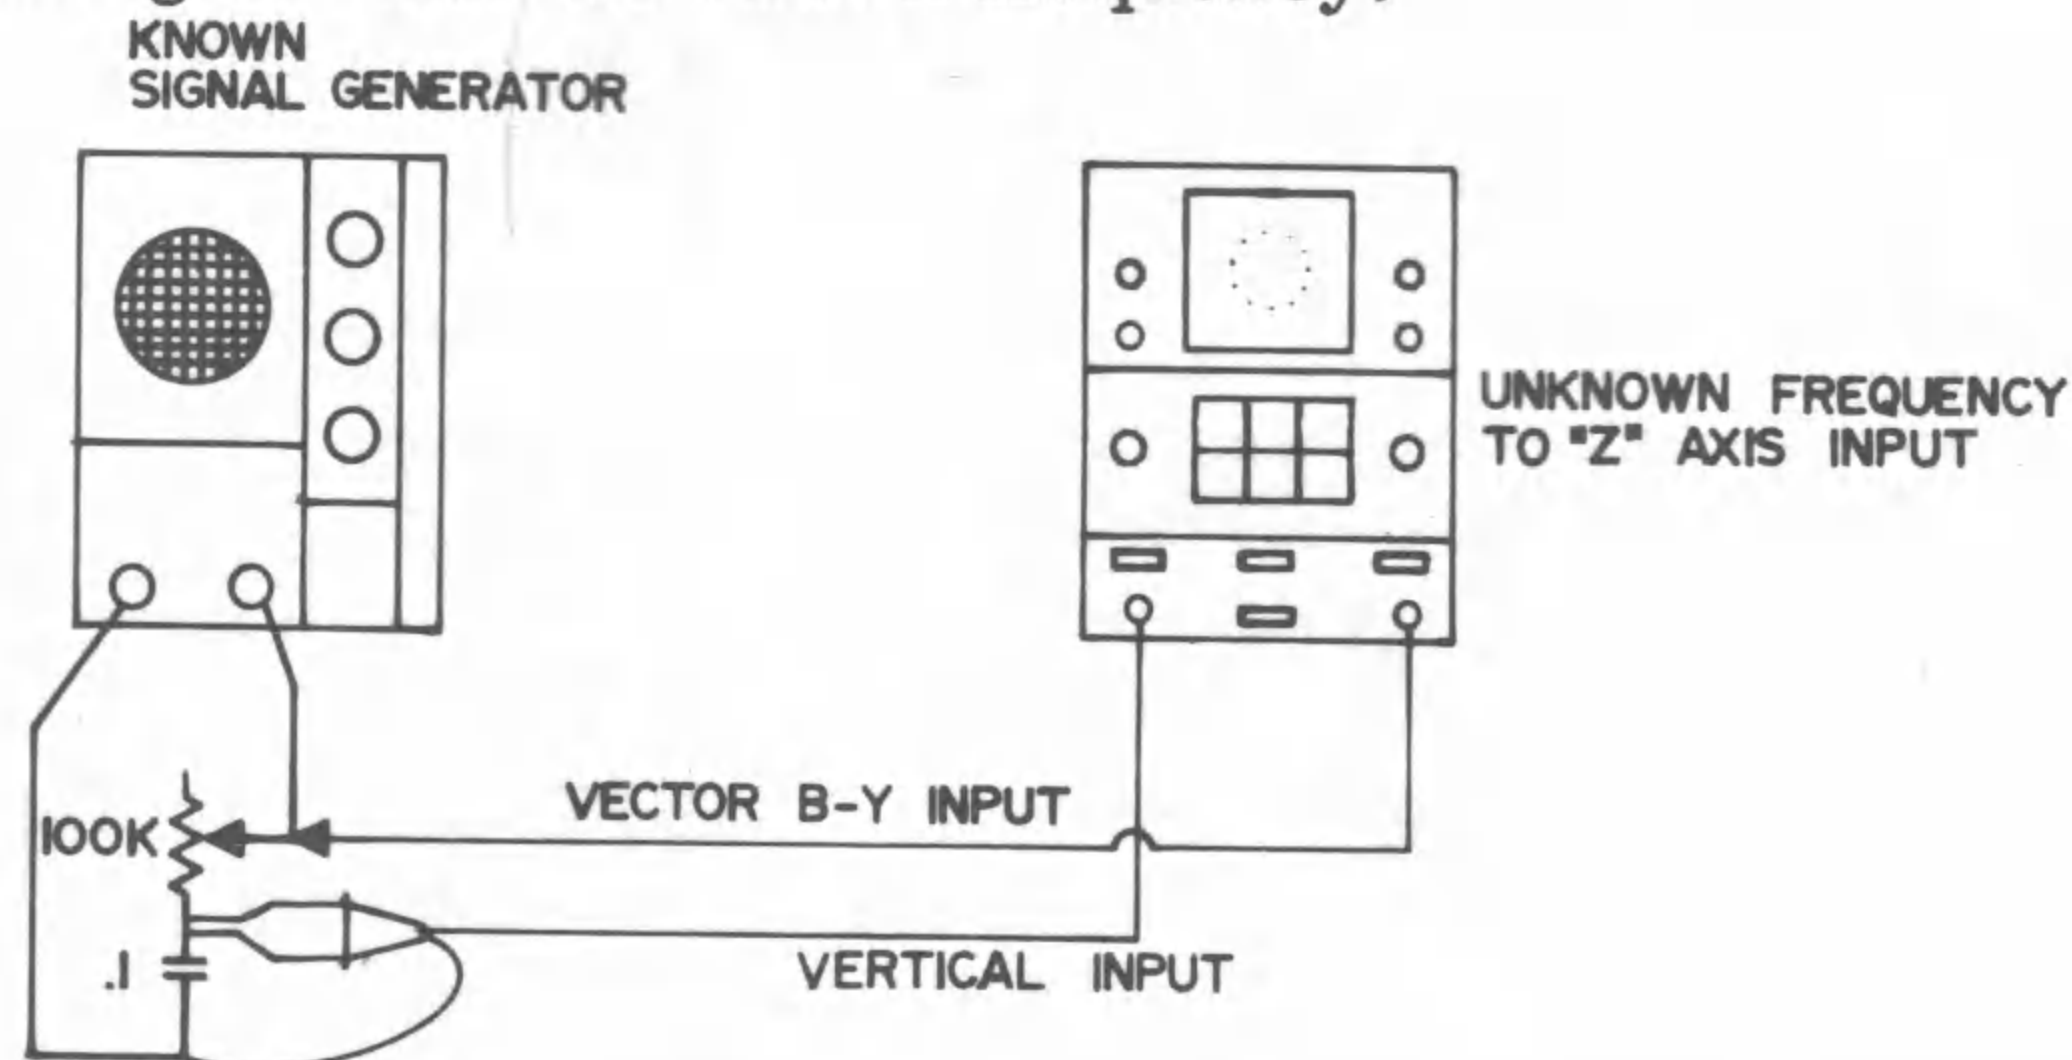

Fig. 6. Connections for frequency measurements using modulated ring method.
1. Connect the signal generator to a phase shift network as shown in Fig. 6. The network shown is for audio frequencies and the component values may need to be reduced for higher frequencies.